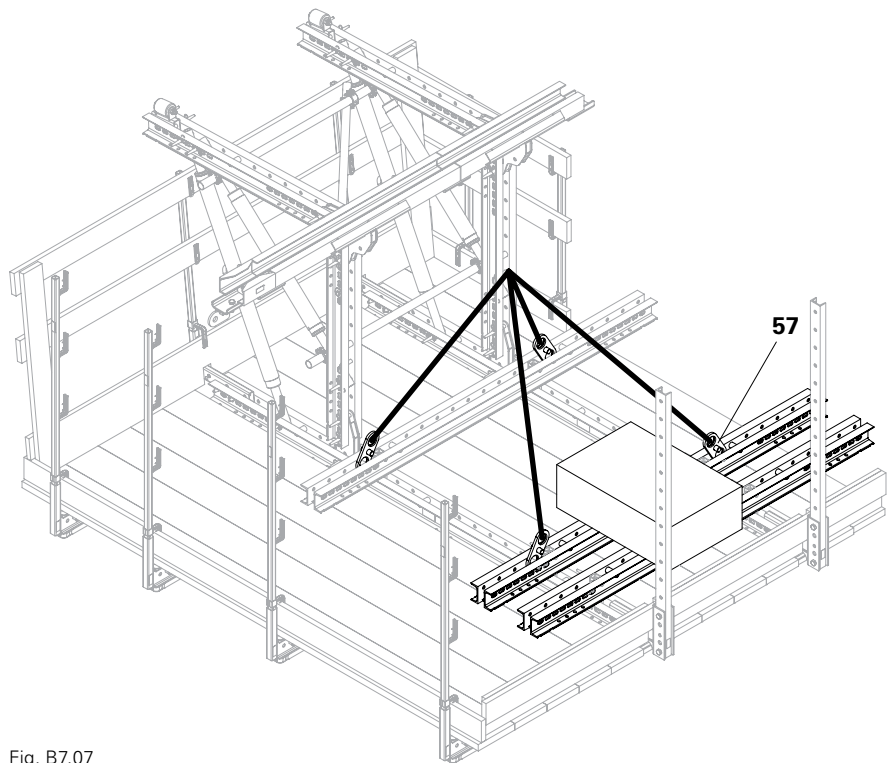

Fig. B7.07
1. Attach crane lifting gear to the Crane Eyes BR-2 2.5 t (57). (Fig. B7.07)